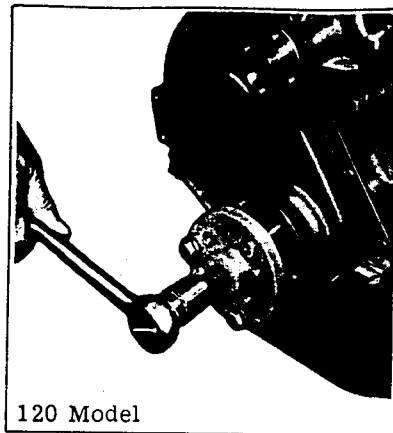
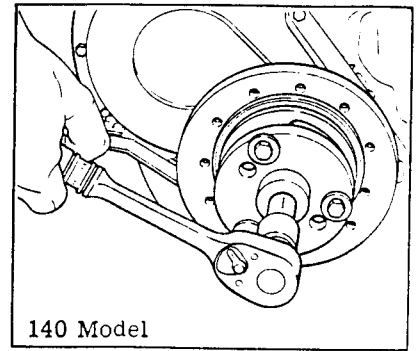

Figure 8-1-21
Figure 8-1-22
a. Remove old stud by placing tool J5802-01 over the stud, installing nut and flat washer and removing stud by turning nut (see Figure 8-1-22).
3. Install pulley tool J6978-E to pulley hub with two 3/8-24 x 2" and one 5/16-24 x 2" bolts and remove hub (see Figure 8-1-21 or Figure 8-1-22). Remove pulley tool (140 Model uses three 3/8-24 bolts).